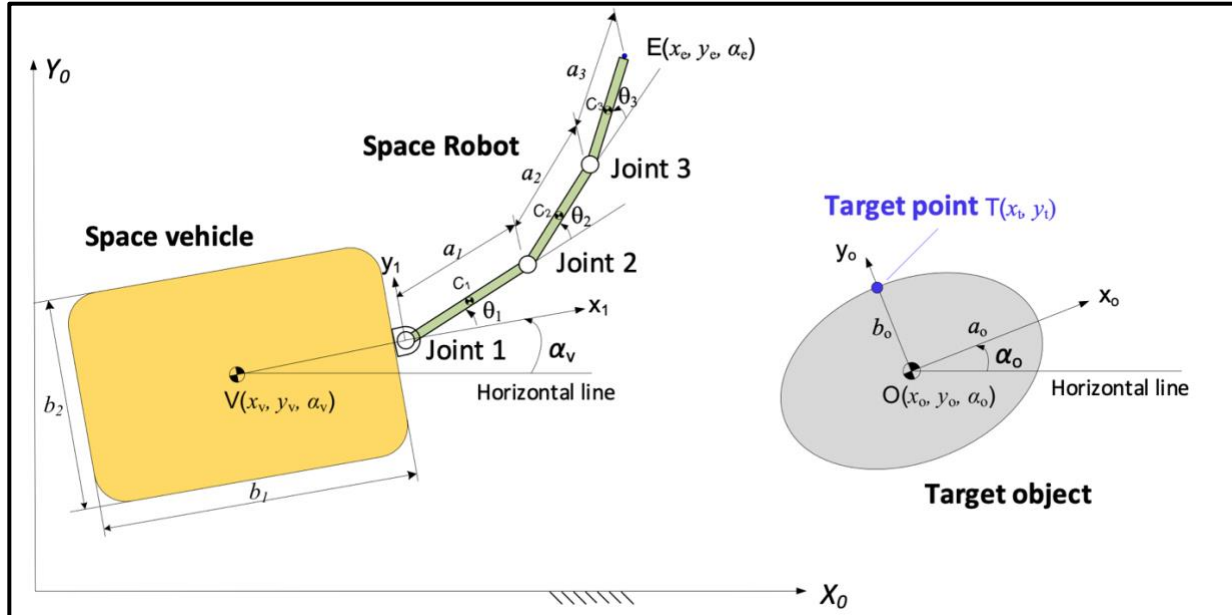

Fig. 2 Sketch of 2D model
Simplify the problem to a 2D planar dynamic system and its corresponding control problem as shown in Figure 2. Assume the space vehicle can fire thrust forces and torque to control its 3-DOF motion and the robot can apply torques to its three joints to control its tip motion. The anticipated operation is to first make the vehicle approach the target object until a distance such that the target point is within the arm's workspace. Then control the vehicle in station keeping mode (trying to keep a constant distance to the target object) and use the robotic arm to reach out to the target point and gently touch the target point at a small relative speed (see requirement). The following tasks are required:
- Implement a 2D dynamics and simulation model. The modelled dynamic system includes a space vehicle, a 3-joint robot, and a target object, shown in Fig.2. The model is capable of simulating the dynamic motions of both the vehicle-robot system and target body. Since in space, the gravity force is ignored.